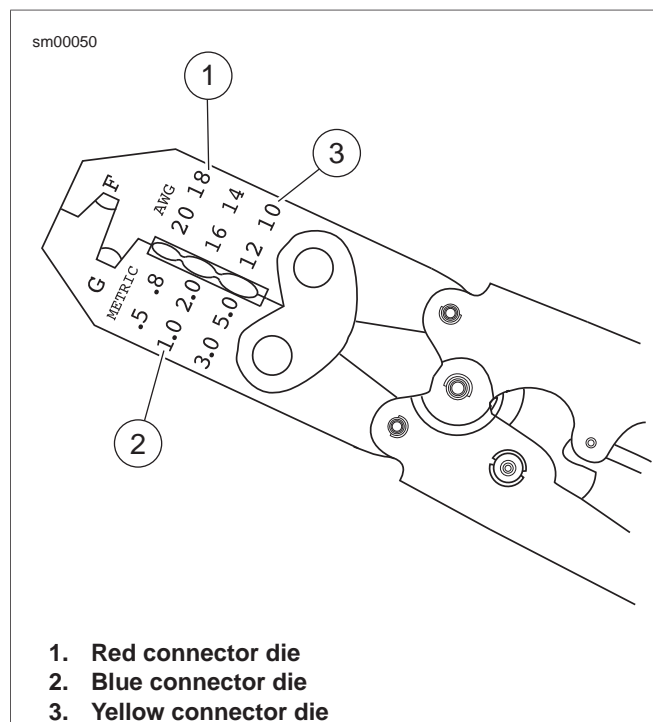

Figure A-46. Packard Crimping Tool (HD-38125-8)
- See Figure A-46. Open the PACKARD CRIMPING TOOL (Part No. HD-38125-8) ratchet by squeezing the handles closed.